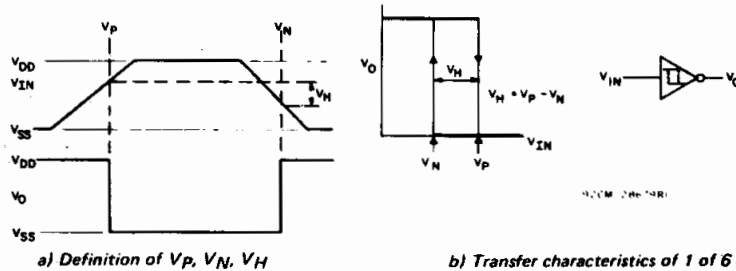

Fig. 6 - Hysteresis definition, characteristics, and test set-up.
■ CD40106B consists of six Schmitt-trigger circuits. Each circuit functions as an inverter with Schmitt-trigger action on the input. The trigger switches at different points for positive- and negative-going signals. The difference between the positive-going voltage (V_P) and the negative-going voltage (V_N) is defined as hysteresis voltage (V_H) (see Fig.6).